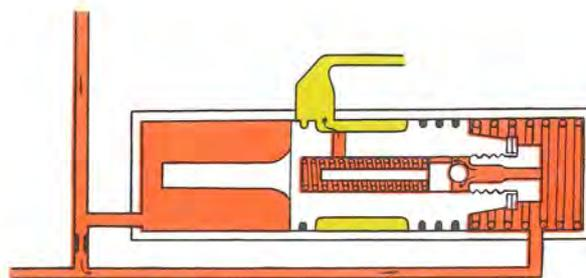

Fig. 6-38. Control valve, maximum pressure
Should the pump flow through the outlet be stopped, for example, because the front wheel turning is blocked, the pressure in the delivery line (1), will rise and the pressure difference between both ends of the control valve will be equalized. This will cause the spring to be moved to the left, the connection with the return channel to be closed and the pressure to rise even more. At about 75 kp/cm2 (1066 p.s.i.) the spring pressure on the safety valve (6) is overcome, that is, the inner part of the control valve, and oil can then pass out to the return channel (4). See Fig. 6-38. The pressure on the right-hand side of the piston will then drop and the entire control valve will be moved to the right so that the connection with the return channel opens. When the pressure drops to its normal value, the safety valve closes and the control valve returns to its normal position.